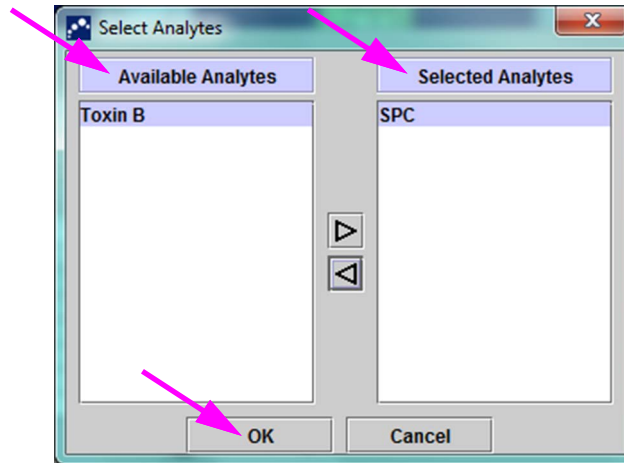

Figure 6-3. Select Analytes Dialog Box
- **Select Analytes** button—Select the analytes. Press the **Select Analytes** button to display the analytes applicable to this assay. The Select Analytes dialog box is displayed. See Figure 6-3.